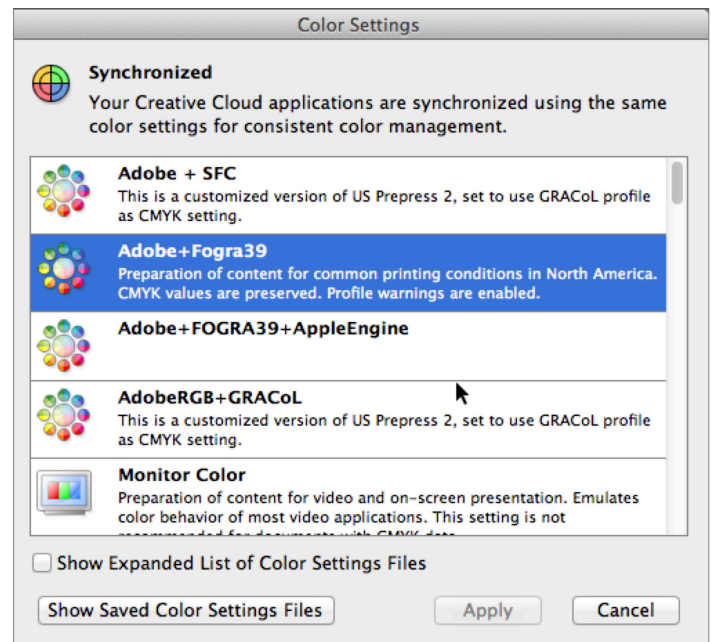

Figure 24
Adobe has provided a quick and easy way to synchronize color (Figure 24). It takes just four mouse clicks, and color will match between Photoshop, Illustrator®, InDesign® and Acrobat® DC Pro. The steps are:
- c. In the window that opens, (Figure 24) find the same setting you chose or created in Photoshop, whether a standard or custom setting.